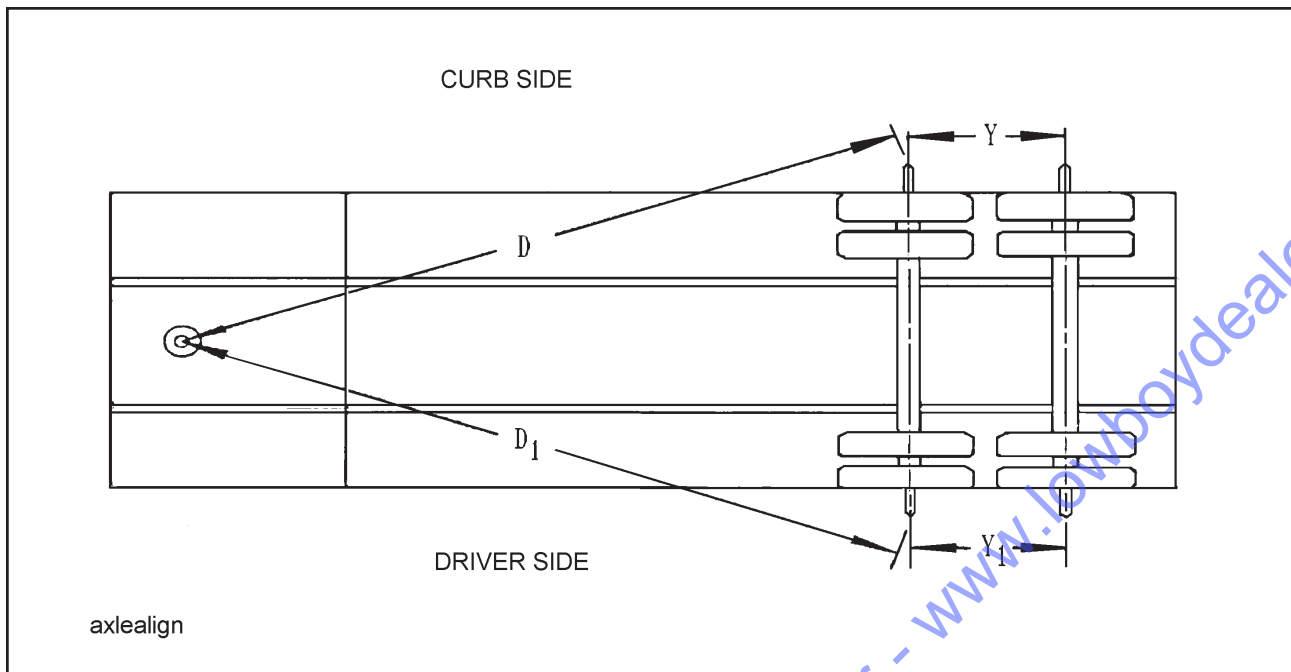

Figure 4-13 Checking Axle Alignment
4. Measure (D) from the plumb bob to the center point on one end of the axle. Record this measurement (**See Figure 4-13**).
5. Measure (D1) to the other end of the axle in the same manner as in **Step 4**. Record this measurement (**See Figure 4-13**).